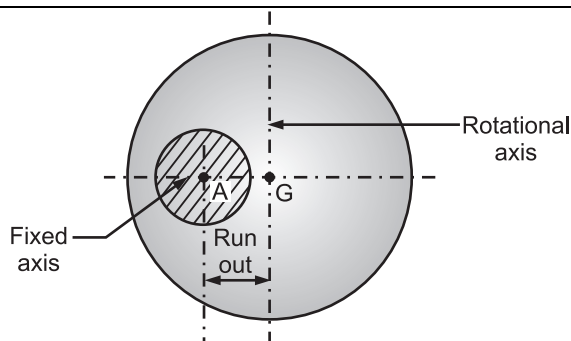

Fig. 8.13: Figure illustrating roundness
- Run out describes about running of a job. Refer figure 8.13, where job is rotating with some another centre than its geometrical centre.